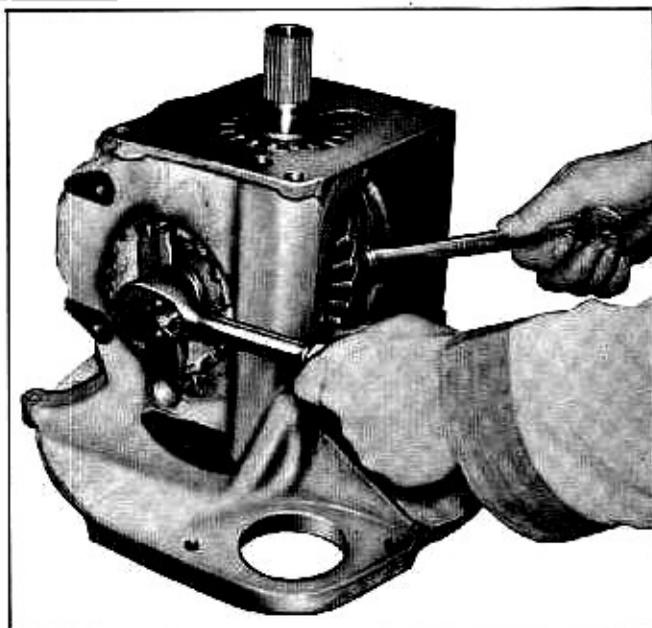

Fig. 9—Adjusting Ring Gear to Pinion
1. Tighten right side bearing adjusting sleeve with Tool J-8342 while rocking the differential assembly until there is zero backlash between the ring gear and pinion (fig. 9). Mark this point on both sleeve and carrier with crayon or pencil.